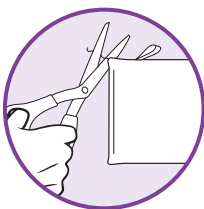

fig. 31
- 2 If there are loose threads on the cleaning pad carefully cut the thread with scissors. Do not pull on them or cut at the base. (fig. 31)